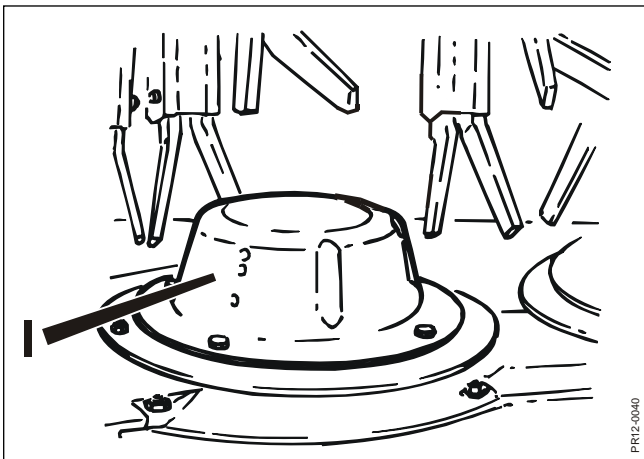

Fig. 5-6
**Fig. 5-6** The two large flow intensifiers **G** on the outermost discs are filled with foam blocks **H** to avoid unbalance. It is important that the foam blocks remain undamaged to prevent the flow intensifiers from being filled up with earth, dust and impurities which may cause unbalance.